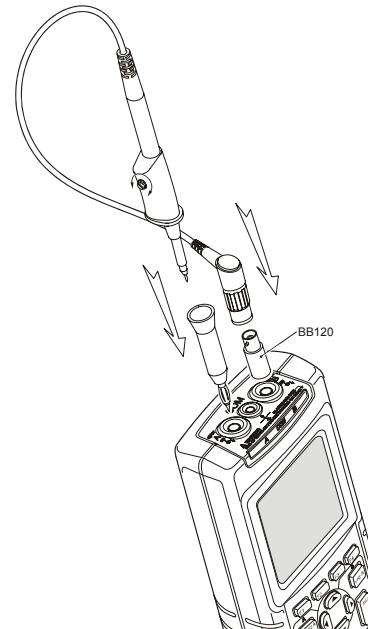

Figure 8-3. Adjusting Scope Probes
- Connect the 10:1 scope probe from the gray input B jack to the red input A jack. Use the red 4-mm banana adapter (delivered with the probe) and the banana-to-BNC adapter (BB120). See Figure 8-3.